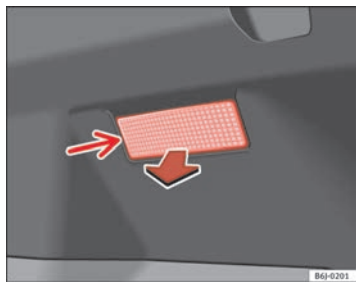

Fig. 157 Luggage compartment light
- Extract the tulip shaped fitting by pressing on the inside edge of this -arrow- using the flat side of a screwdriver ⇒ fig. 157.